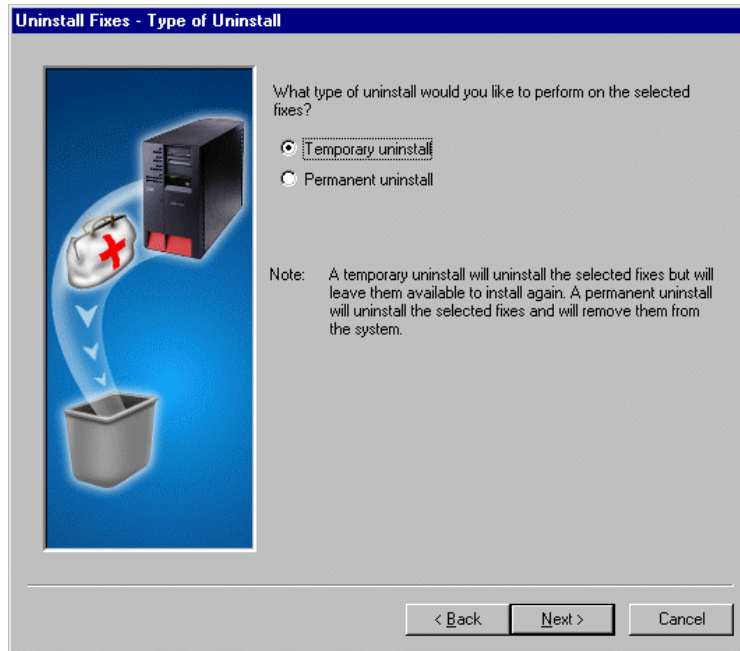

Figure 102. Uninstall Fixes: Type of Uninstall window
9. Ensure the correct fix is listed and click **Next** to see the Uninstall Fixes – Type of Uninstall window, which is shown in Figure 102 on page 122.